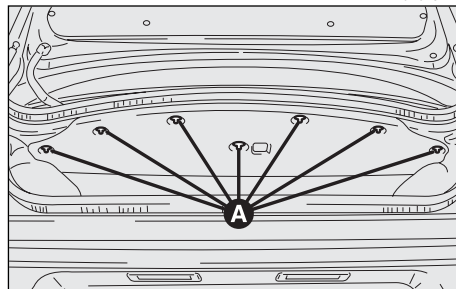

fig. 64
- Turn the fastening buttons (**A-fig. 64**) until they click and lower the trim.